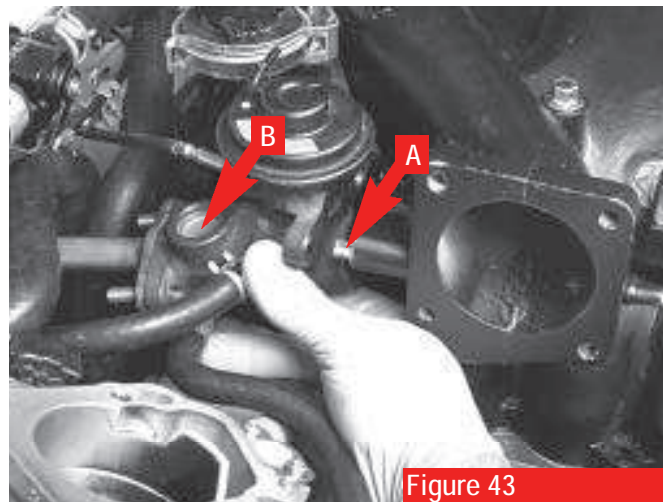

Figure 43
1. Remove the EGR block-off plate from the two studs on the supercharger manifold and using these nuts and washers, install the EGR gasket and valve to the manifold and hand tighten (**see arrow A, figure 43**).
2. With the supercharger bolted to the engine, attach the EGR valve to the EGR pipe and hand tighten with the original nuts (**see arrow B, figure 43**).